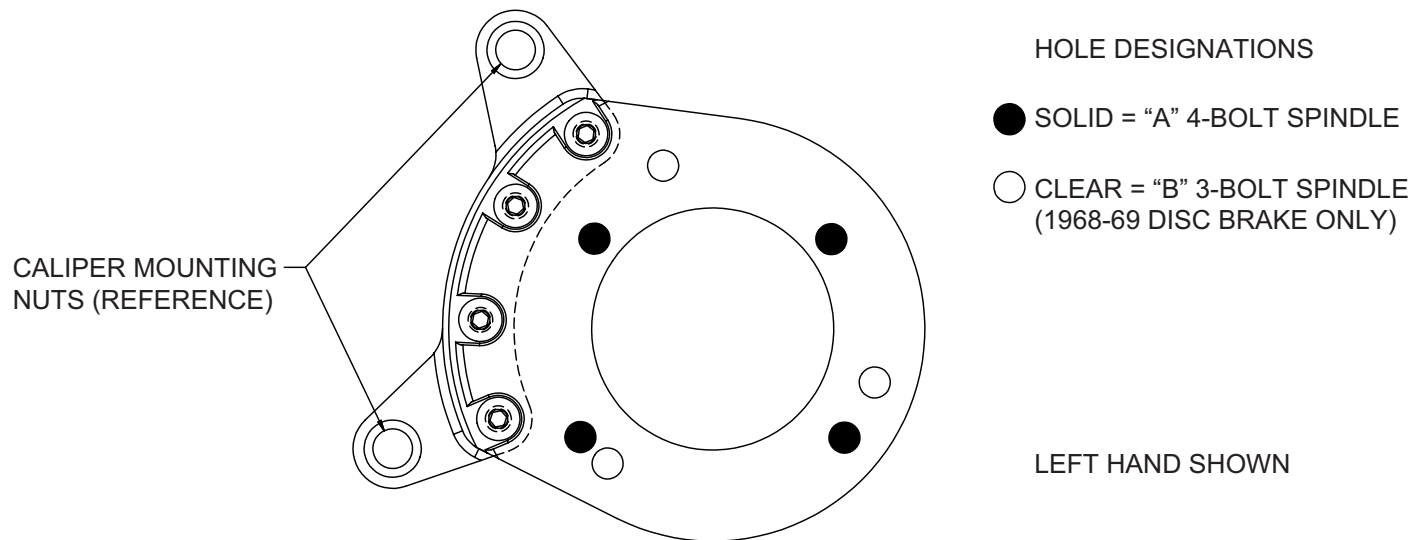
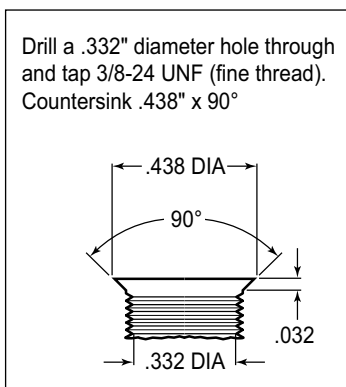
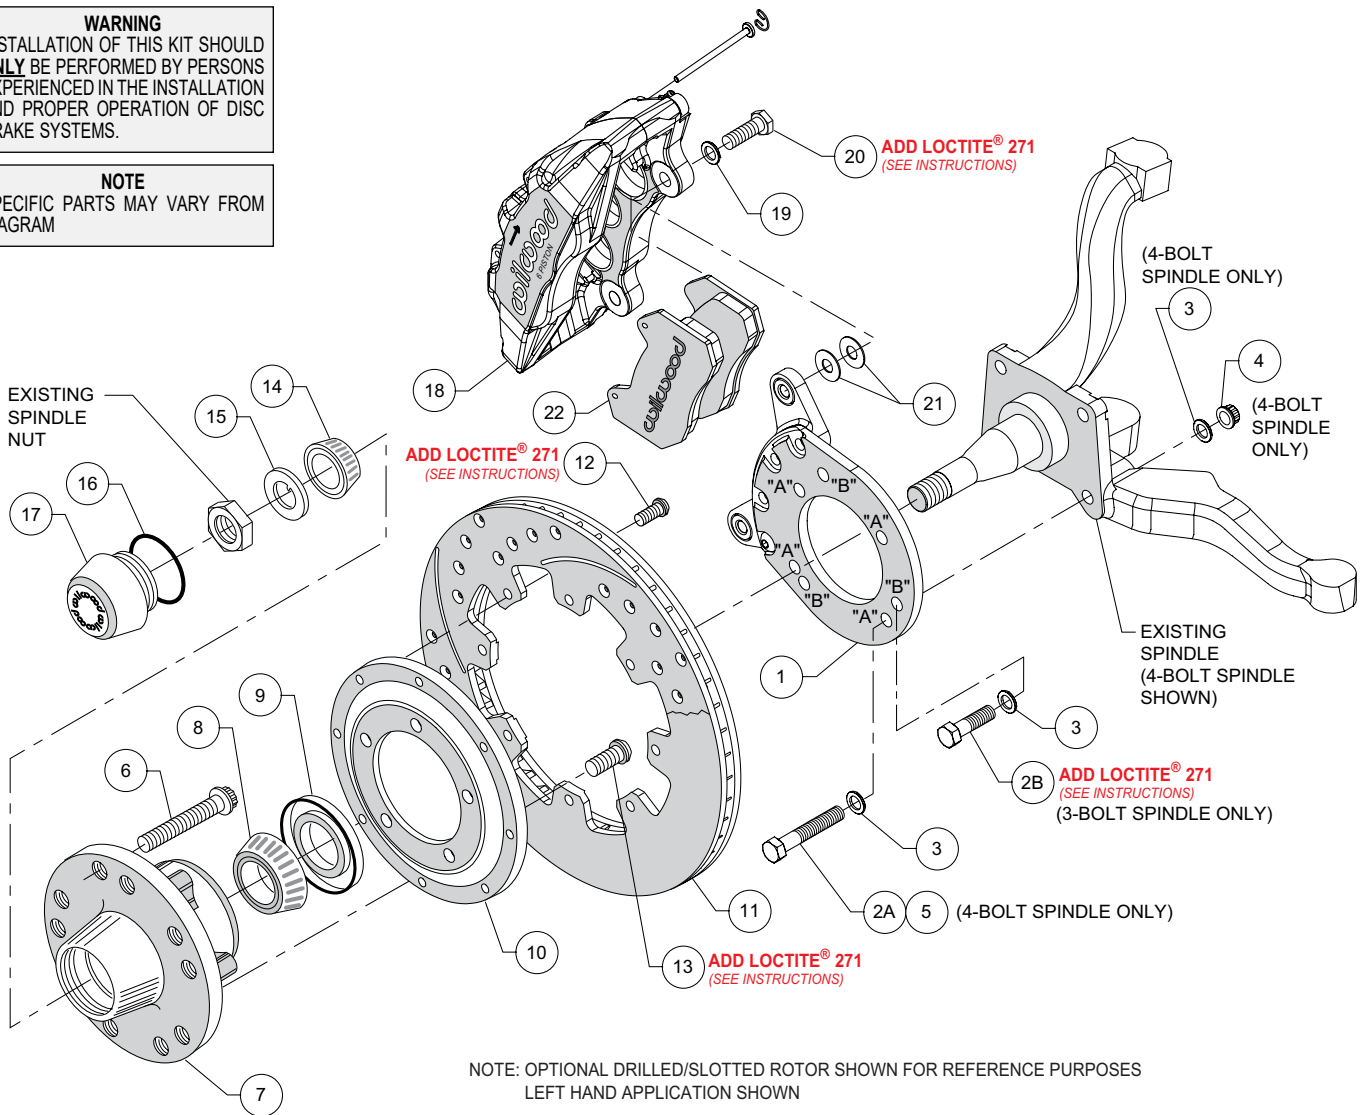

Figure 1. Wilwood Caliper Mounting Bracket
Figure 2. Drill and Tap Detail
Figure 4. Typical Installation Configuration
This kit has been designed for use with both the disc brake or the drum brake configuration of vehicle. The only difference is in how the Wilwood caliper mounting bracket is installed. The same bracket is used for both configurations; the disc brake version utilizes three mounting holes while the drum brake application uses four mounting holes (see Figure 1). For your convenience we have supplied bolt kits for both applications (see parts list and Figure 4 as necessary). Use the bolt kit that is applicable to your vehicle and disregard the other one.
**NOTE:** This modification should be performed by a qualified machinist and completed before assembly of the Wilwood disc brake kit begins. Using the caliper mounting bracket as a template (refer to Figure 1 as necessary), locate and verify the three original holes on the spindle that need to be modified. Drill a .332" diameter hole through all three holes, then tap 3/8-24 UNF (fine thread). Countersink the holes to .438" diameter x 90°, as shown in Figure 2.
**NOTE:** Numbers in parenthesis refer to the parts list on the preceding page and Figure 4.
**NOTE:** This kit uses the same mounting bracket (1) for both the three and four bolt brake spindles. The 4-bolt version, Photo 1, uses four mounting bolts (designated "A"), while the 3-bolt version, Photo 2, uses three (designated "B"). Refer to Figures 1 and 4 for the basic installation position of the bracket and the "A" and "B" reference designations (not physically marked on the brackets).
**For 4-Bolt Spindle:** Align bracket, using the four "A" holes, to the face of the spindle and attach using bolts (2A and 5), washers (3), and lock nuts (4), as shown in Figure 4. Ensure that the flanged heads of the clinch nuts in the bracket are facing outboard, Photo 1. Torque nuts to 30 ft-lb.
**For 3-Bolt Spindle (1968-69 Disc Brake):** Align bracket, using the three "B" holes, to the face of the spindle and attach using bolts (2B) and washers (3), as shown in Figure 4. Finger tighten. Ensure that the flanged heads of the clinch nuts in the bracket are facing outboard, photo 2. Remove bolts one at a time, apply red *Loctite*® 271 to threads, and torque to 40 ft-lb.
- Install wheel studs (6) into the hub (7), Photo 3. Torque to 77 ft-lb. **NOTE:** There are two five lug patterns in the hub (5 x 4.50 and 5 x 4.75). Ensure the correct hub stud pattern is being used to fit the wheel application.
- Pack the large inner bearing cone (8) with high temperature disc brake bearing grease (available from your local auto parts store) and install into the backside of the hub (7), Photo 4.
- Install the grease seal (9) by pressing into the backside of the hub (7), flush with the end of the hub, Photo 4.
- Orient the rotor (11) and the rotor adapter (10) as shown in Figure 4 and Photo 5. Attach the rotor to the adapter using bolts (12). Using an alternating sequence, apply red *Loctite*® 271 to the threads, and torque to 25 ft-lb.
- Mount the adapter/rotor assembly (10/11) to the hub (7) using bolts (13), as shown in Figure 4 and Photo 6. Using an alternating sequence, apply red *Loctite*® 271 to the threads, and torque to 45 ft-lb.
- Pack the small outer bearing cone (14) with high temperature disc brake bearing grease and install into hub (7). Slide the hub/rotor assembly onto the spindle. Secure using spindle washer (15) and OEM spindle nut, Photo 7. Adjust bearings per OEM specifications. Install saved OEM nut lock (if any) and a new cotter pin (not included).
- Screw dust cap (17) into hub (7), Photo 8. Friction created by the o-ring (16) on the dust cap keeps it from unscrewing. **NOTE:** The O.D. of the existing OEM spindle washer may be larger than the I.D. of the dust cap not allowing it to seat against the hub face. Therefore, use the spindle washer (15) supplied with the kit instead of the OEM washer.
- NOTE:** Please reference the caution statement at the beginning of the assembly instructions. This kit contains distinct right and left hand calipers that must be mounted in a specific direction, as described below. Mount the caliper (18) onto the caliper mounting bracket (1) using bolts (20) and washers (19), as shown in Figure 4. Initially place two .035" thick shims (21) on each bolt between the caliper and the bracket, Photo 9. Ensure that the caliper is mounted so the largest pistons are at the rotor exit end of the caliper, in relation to the direction of rotor rotation. Temporarily tighten the mounting bolts and view the rotor (11) through the top opening of the caliper. The rotor should be centered in the caliper, Photo 10. If not, adjust by adding or subtracting shims between the bracket and the caliper. Always use the same amount of shims on each of the two mounting bolts. **NOTE:** The end of each bolt must be flush with or slightly protruding from the head of the
- Remove the two pad retaining pins from the caliper (18) by carefully popping out the pin retaining clips and sliding out the pins. Insert the brake pads (22) into the caliper from the bottom, Figure 4 and Photo 11, with the friction material facing the rotor. Secure the brake pads in place with the pad retaining pins and clips, Photo 12. Reinstall the caliper onto the caliper mounting bracket. Apply red *Loctite*® 271 to bolt threads (20), and torque to 40 ft-lb.